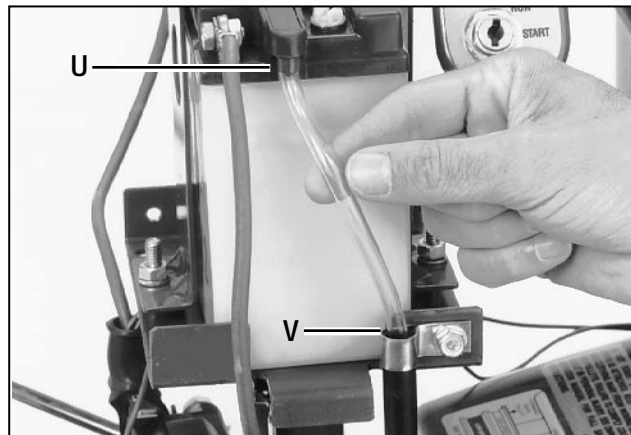

Figure 2-21: Install vent tube.
5. Install one end of the clear plastic vent tube over the vent fitting (U, Figure 2-21) on the battery. Insert the other end down into the vent tube shield (V).